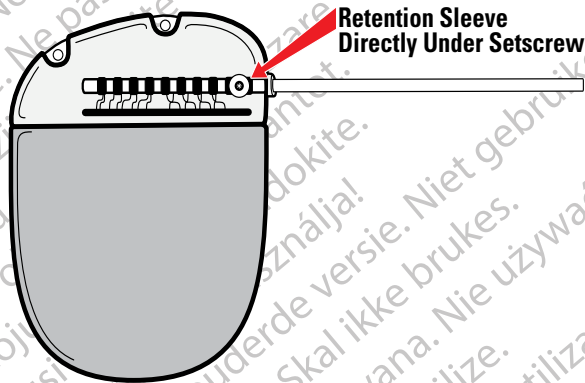

Figure 32. Alignment of Lead Extension Contacts in the DBS IPG Port
5. Visually confirm that the Contacts on the Lead Extension are aligned with the Contacts within the IPG Header. Verify that the Retention Sleeve on the Lead Extension is located directly under the Setscrew in the IPG Port (Figure 32).